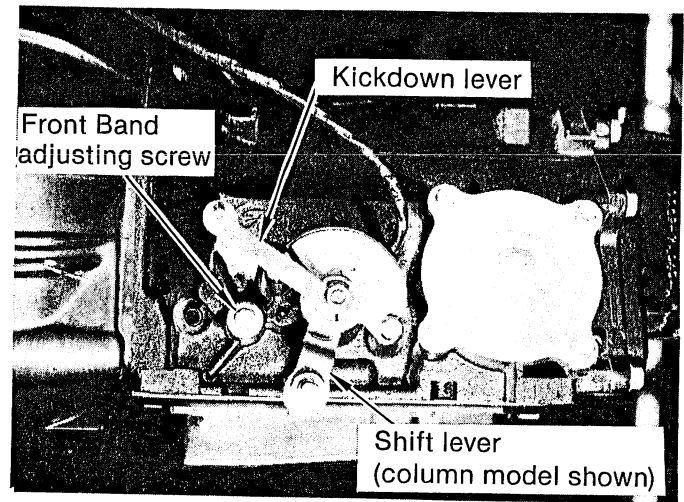

FIGURE 1
STEP 20. Install valve body into transmission carefully. Align selector lever tab to manual valve slot and align kickdown lever to approximate position then engage selector lever into manual valve while working kickdown lever slightly by hand to find its working position. (A slight spring action will be felt.) You should be able to hold the valve body flat against the case without excessive force. The kickdown lever should move freely with no bind as it did before removal. Install valve body bolts finger tight. The long bolt goes thru the filter. Install detent roller spring in corner. (See Fig. 1) Again check for free operation of kickdown and shifter linkage. Tighten valve body bolts to 80-120 in.-lbs. Tighten detent roller spring casting bolt 20-40 in.-lbs. Failure to properly install valve body can result in damage to linkage, valve body and/or case.